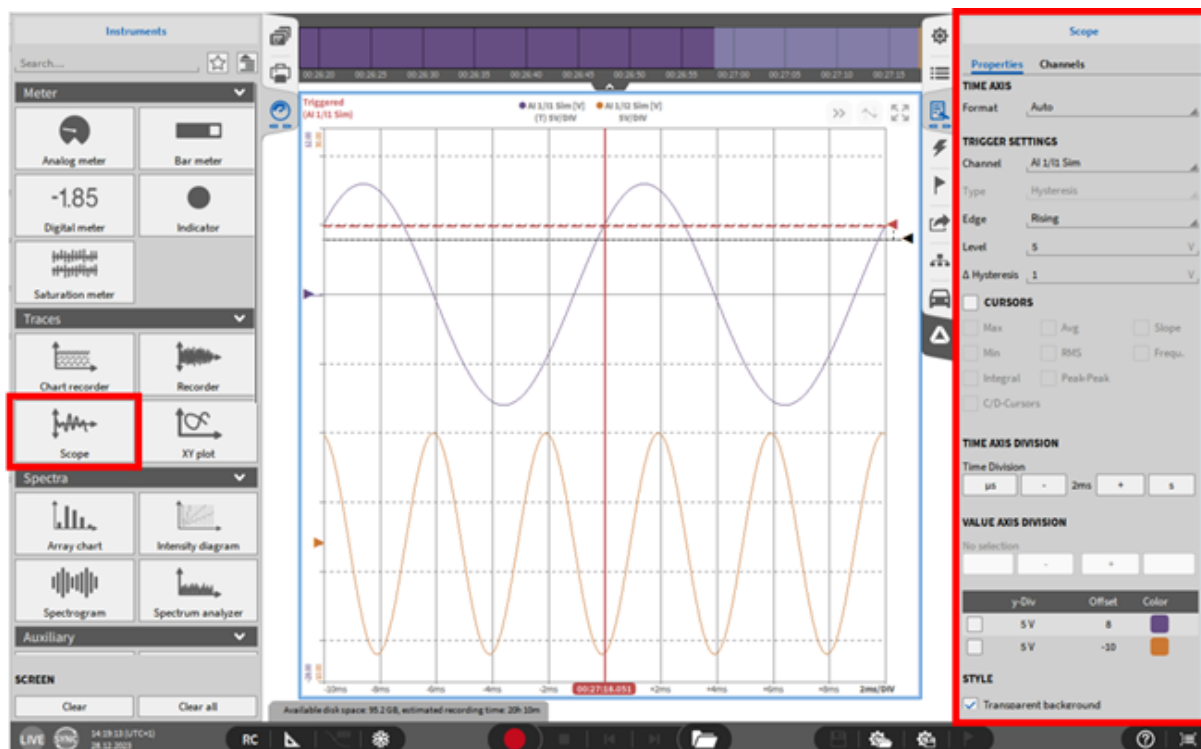
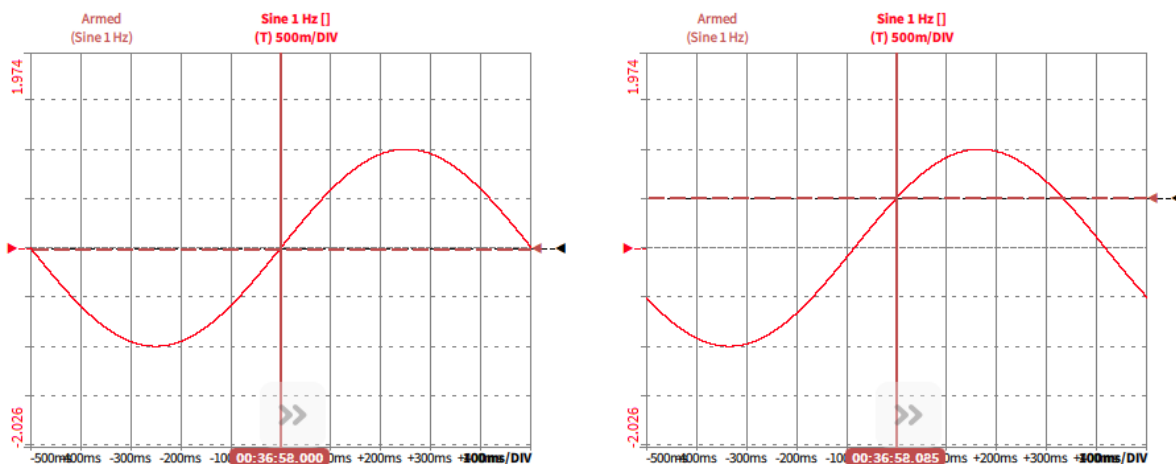

Fig. 8.36: Scope instrument – overview
Fig. 8.38: Rising trigger edge with level 0 (left) and level +0.5 (right)
- In the *Level* selection, the user can define the level of the trigger. The level can also be set with the *Level* cursor (see Fig. 8.36) and must be within the signal range. Fig. 8.38 shows a 1 Hz sine wave with an amplitude of ± 1 which is triggered with a rising edge on level 0 and level +0.5.
In the Δ *Hysteresis* selection, the user can define a level the signal must pass before a new trigger event occurs. Setting a hysteresis level avoids unwanted trigger events that may occur caused by noise around the trigger level. The Δ *Hysteresis* level can also be set with the *Hysteresis* cursor (see Fig. 8.36).
- The Offset Cursors (see Fig. 8.36) can be used to displace the displayed signals vertically. Using this function will not affect the phase accuracy.